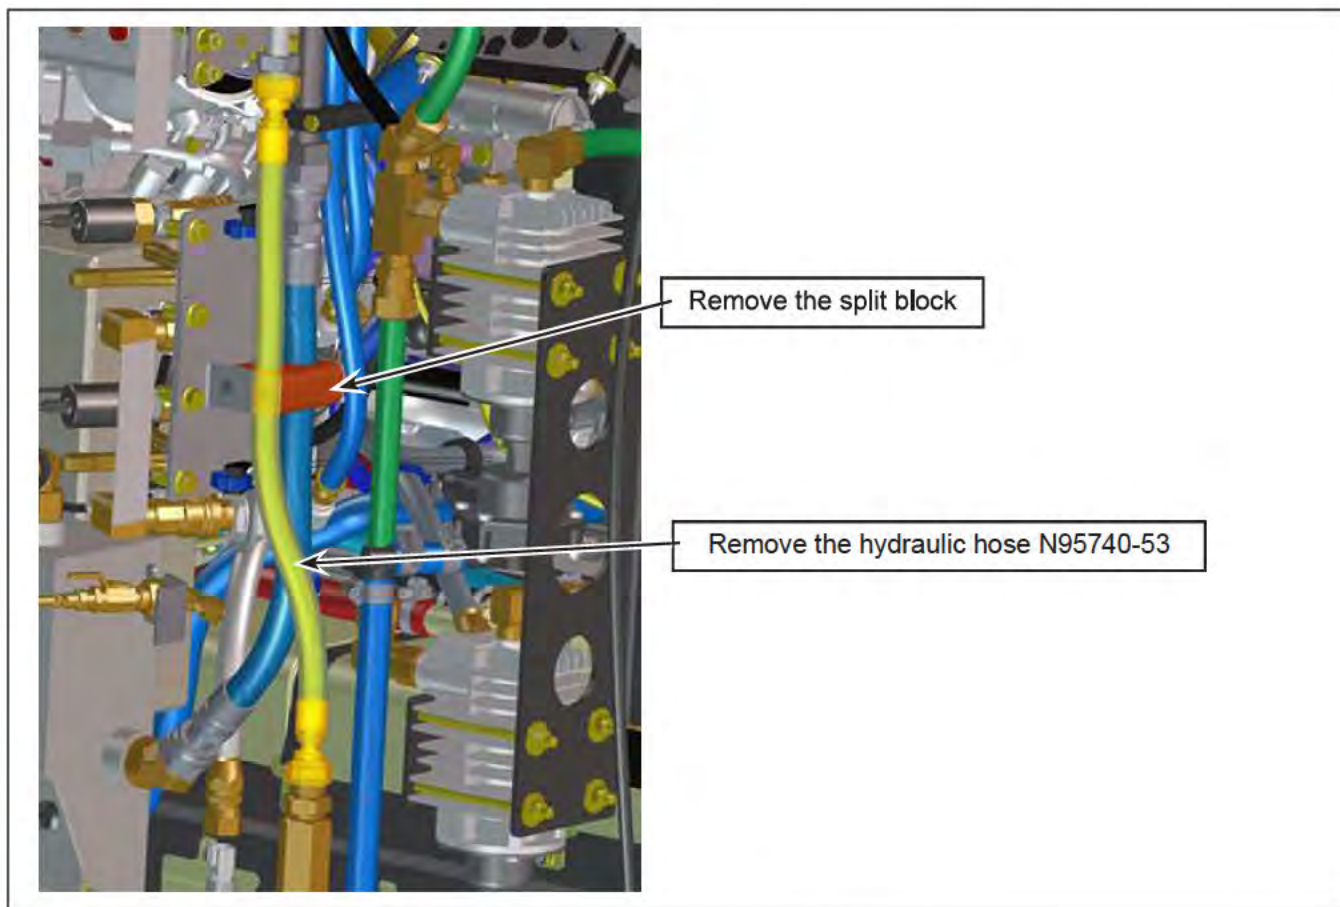

Figure 4 - Engine compartment N95740-53 Hydraulic Hose
- 2.4. Remove the split blocks who affix the N95740-53 hydraulic hose to the structure. Retain the block and hardware. See Figure 4.
- 2.5. Remove and discard the hydraulic hose N95740-53 equip with an improper fitting. See Figure 4.